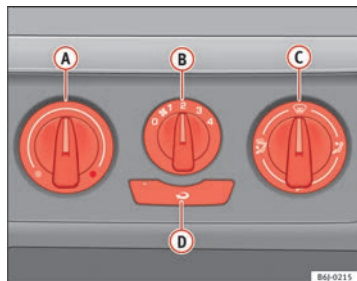

Fig. 99 Heating controls on the dash panel
- Using the controls **(A)** and **(C)** and with the switch **(B)** ⇒ Fig. 99 you can adjust the temperature, the air distribution and the blower speed.